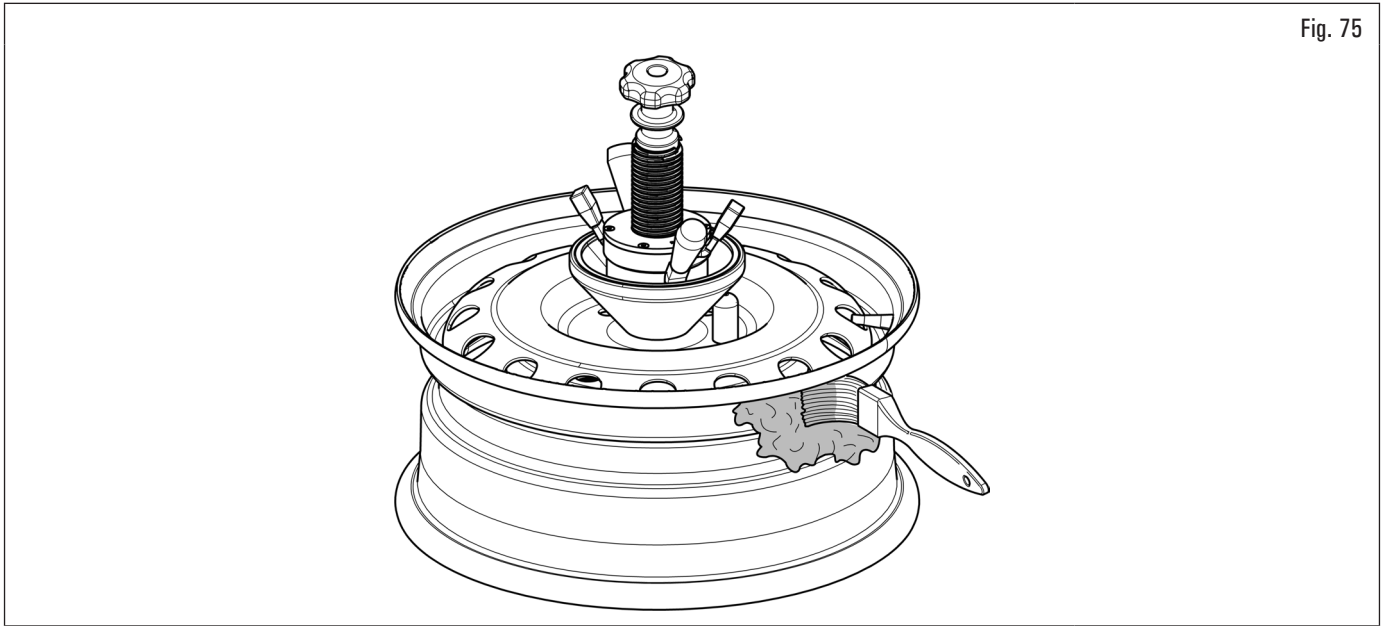

Fig. 75
1. Generously grease the rim, taking care to keep the valve clean and not greased (see Fig. 75);